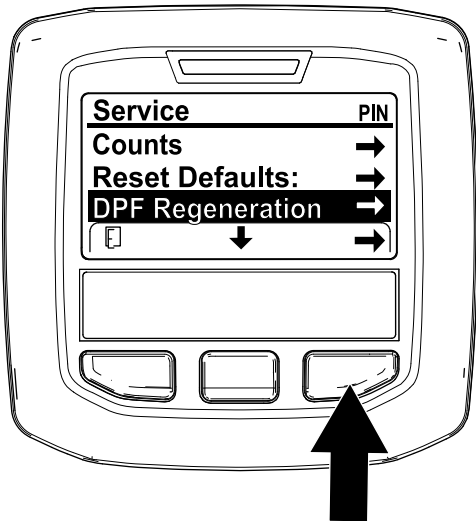

Figure 58
- 1. Access the Service menu, press the center button to scroll down to the DPF REGENERATION option (Figure 58).
- 2. Press the right button to select the DPF Regeneration entry (Figure 58).